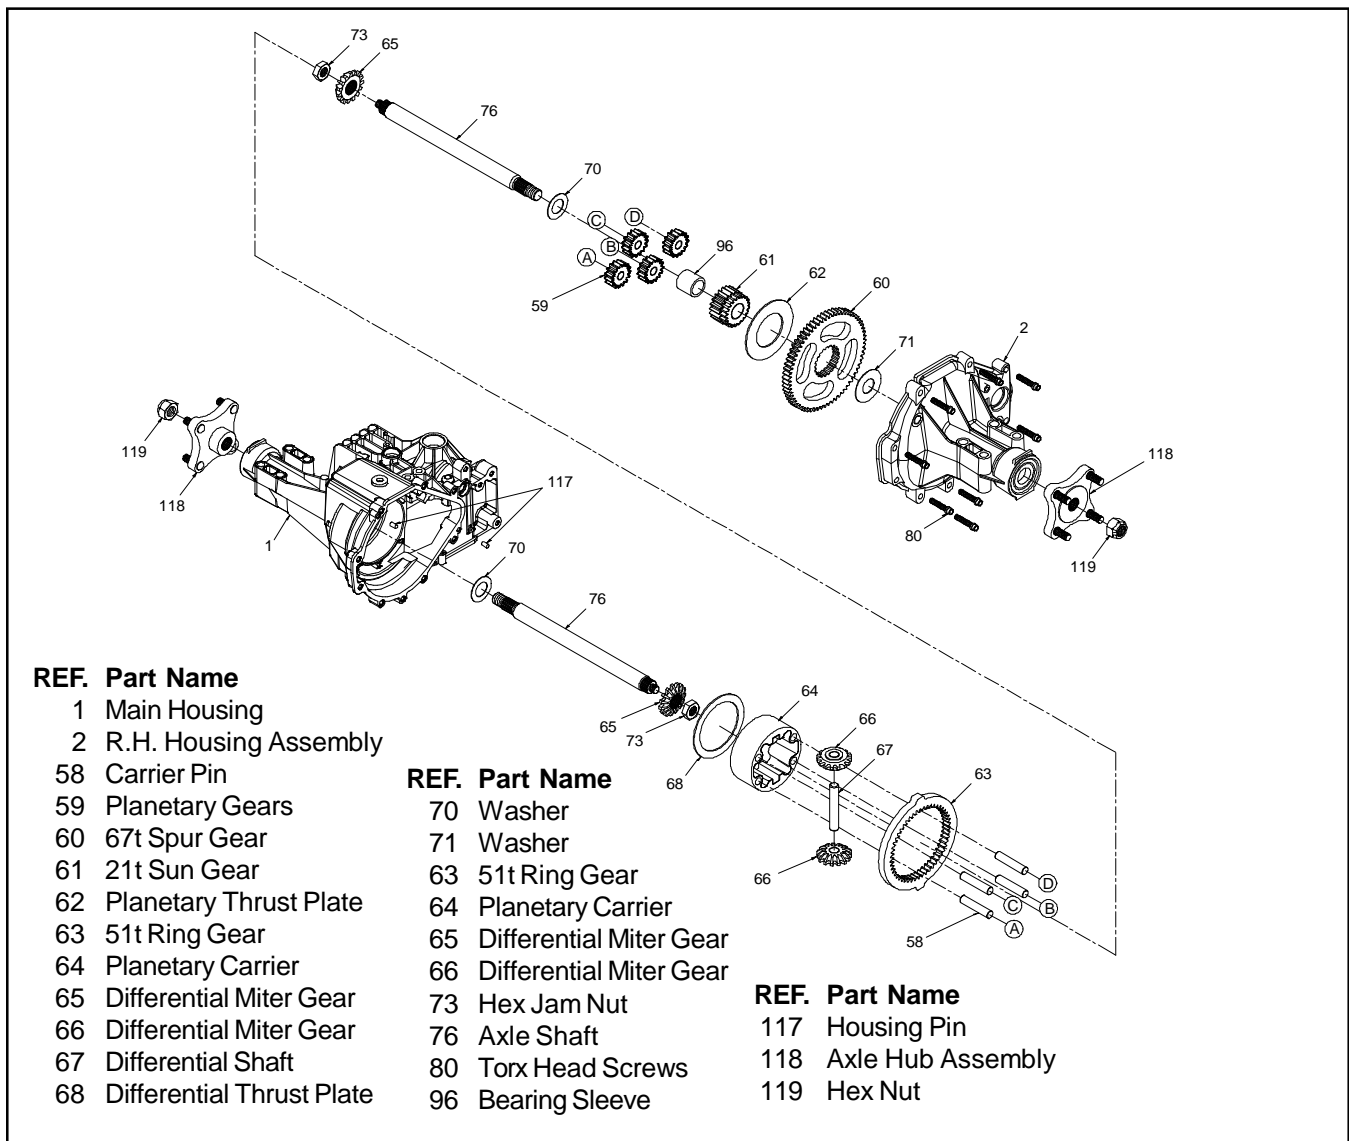

Figure 15. Planetary Differential Assembly
Refer to Figure 15, next page.
11. Install the planetary thrust plate (62).
12. Install the 67T spur gear (60) onto the 21T sun gear (61).
13. Slide washer (71) onto axle shaft (76).
14. Install the two housing pins (117) into the main housing (1).
15. Apply a bead of sealant to the R.H. housing (2).
16. Install R.H. housing (2) by sliding it down the axle shaft (76), over motor shaft assembly (24, Figure 15) and onto main housing (1).
17. Secure housings by installing the eight housing screws (80), per Table 5, Page 13.
18. After the transaxle has been installed in the vehicle, install the axle hub assemblies (118), according to the instructions in "Transaxle installation", Page 30.